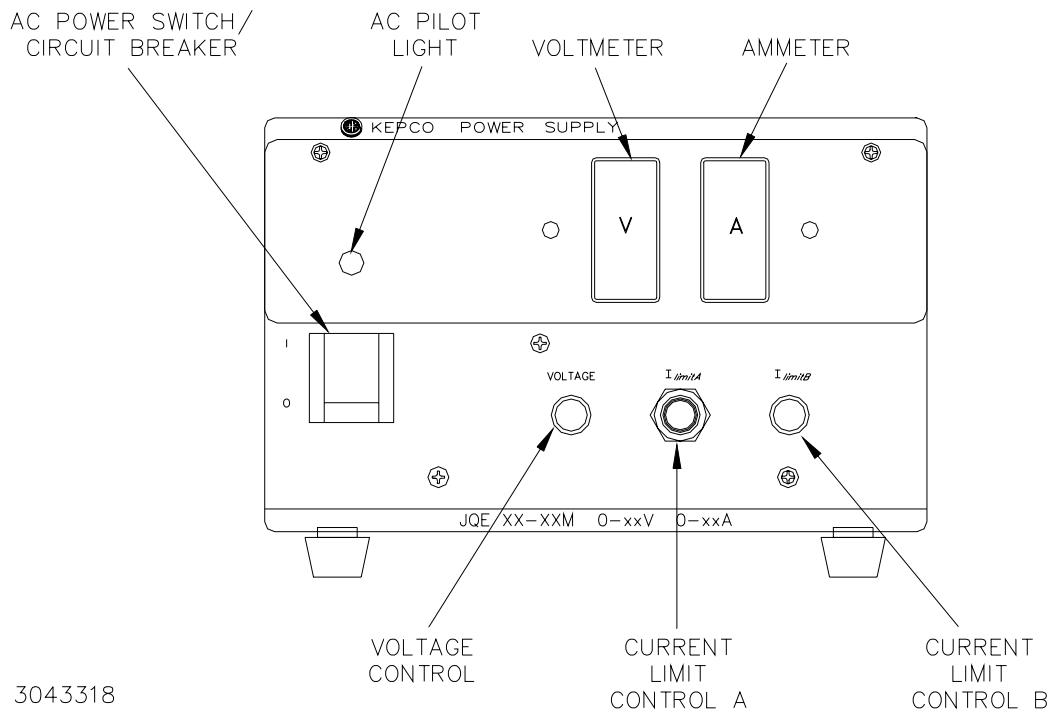

FIGURE 2-1. FRONT PANEL CONTROLS AND INDICATORS, JQE SPECIAL MODELS
a) **Front Panel:** Refer to Figure 2-1 and Table 2-1.
A simple operational check after unpacking and before equipment installation is advisable to ascertain whether the power supply has suffered damage resulting from shipping. Refer to Figures 2-1 and 2-2 for location of operating controls and electrical connections.